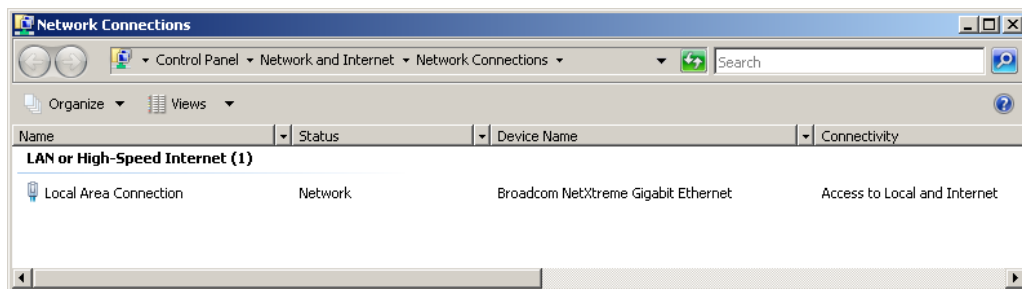
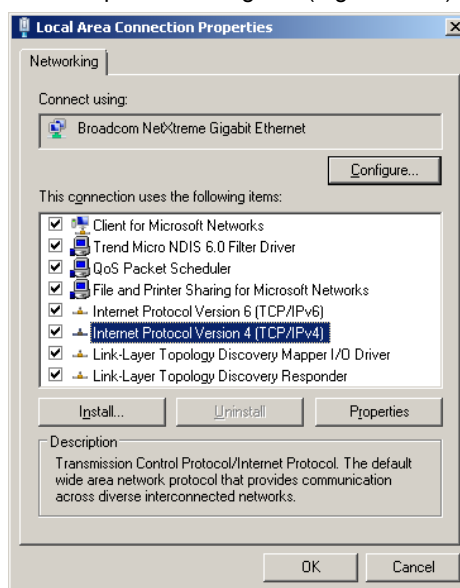

Figure 1.3-1 Network Connections dialog box
Figure 1.3-2 Local Area Connection 2 Properties dialog box
- (2) Select "Network" from the Start menu, and right-click on the Network folder to select "Properties." Select "Manage Network Connections" from the Task menu in "Properties" dialog box. A "Network Connections" dialog box (Figure 1.3-1) will appear.
- For Windows XP, right click on the icon "My Network" on the desktop, and select "Properties" from the popup menu. A "Network and Dial-up Connections" dialog box (Figure 1.3-1) will appear.
- (3) Confirm that the network card used to connect to the C1 controller appears in the name field in the Network Connections dialog box (Figure 1.3-1). After confirming that the network card is registered, right click on its name. Select "Properties" from the popup menu. If the "User Account Control (UAC)" dialog box appears, click [Continue] button. The "Local Area Connection 2 Properties" dialog box (Figure 1.3-2) will appear.
- (4) Select “Internet Protocol Version 4 (TCP/IPv4)” on the “Local Area Connection 2 Properties” dialog box (Figure 1.3-2). Then, select “Properties.”